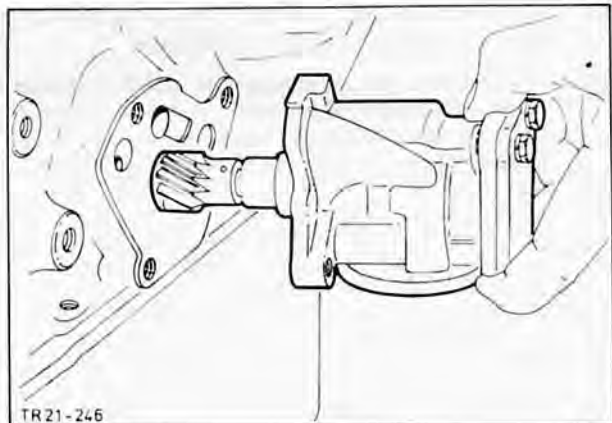

Fig. 66. Fit oil pump
59. Fit oil pump complete with gasket and torque bolts as specified in Technical Data, Fig. 66.